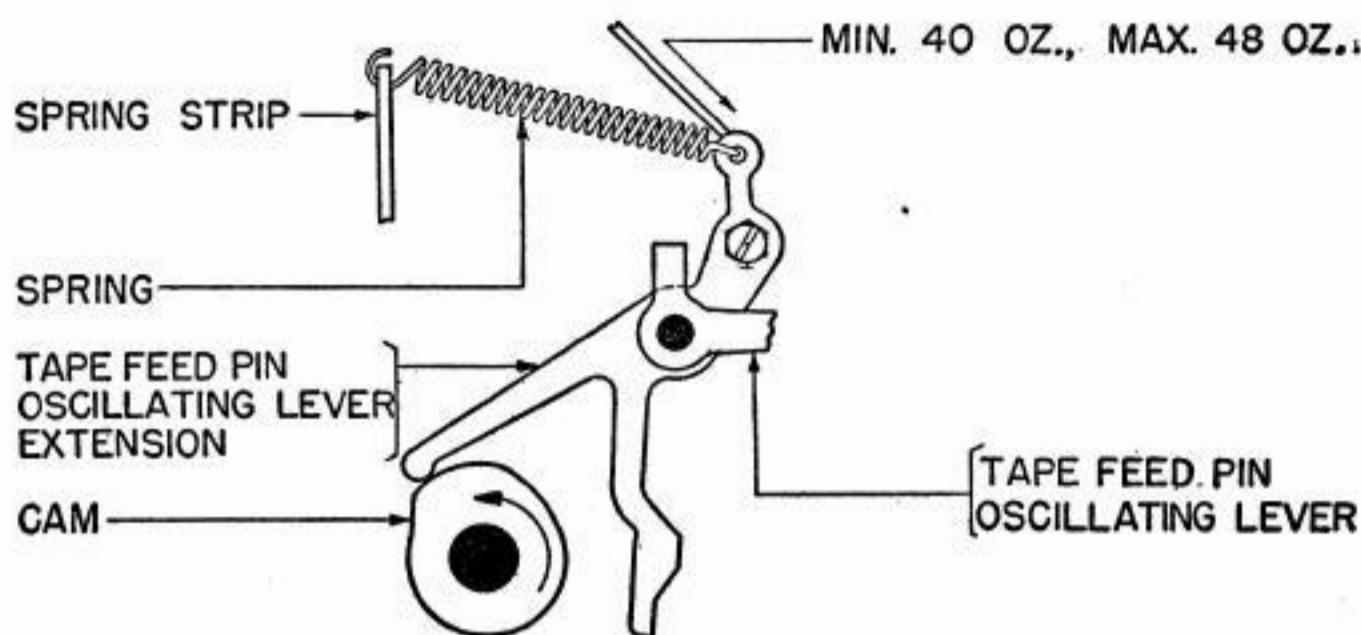

Fig. 54
2.114 **Tape-Feed-Pin Oscillating-Lever Extension Spring:** It should require a push as indicated in Fig. 54 to just start the oscillating lever extension moving when the cam-follower tip of the extension is resting firmly on the high part of its cam. **Fig. 54**